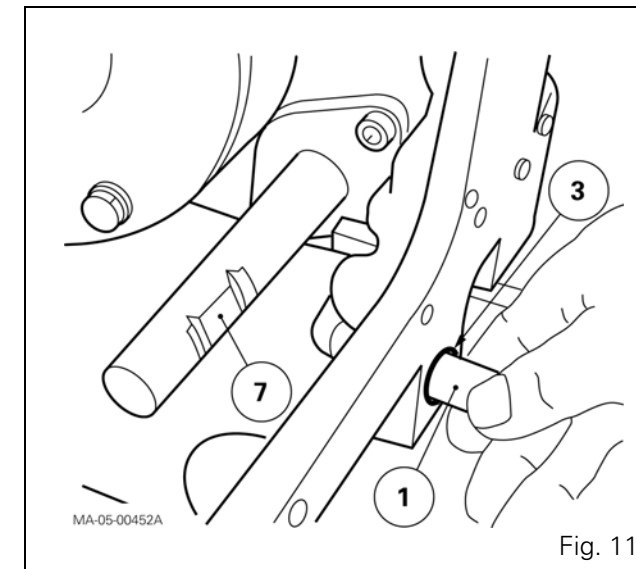

Fig. 11
18. To remove the creeper unit control rod (1), turn it so that it passes beneath the selector rail (7) (Fig. 11).